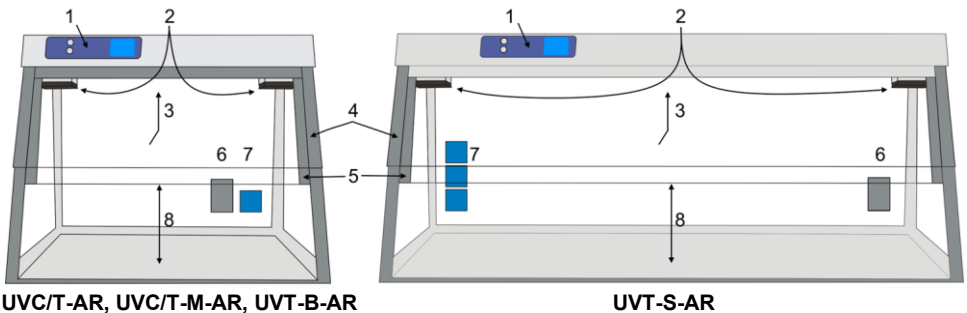

Figure 6. DNA/RNA UV box, frontal view:
5.4.1. Lift the front protective screen (fig. 6/5) up for work in the box. Models have different maximum opening heights (fig. 6/8), as listed in the **Specifications** section, and may be raised to the following positions:
**Note.** Do not block the recirculator openings (fig. 6/2)!
5.4.2. To use electric devices inside the box, pull their power cable through the inlet and close the flap (fig. 6/6) or connect the power cable to a built-in mains socket (fig. 6/7, models with mains socket).